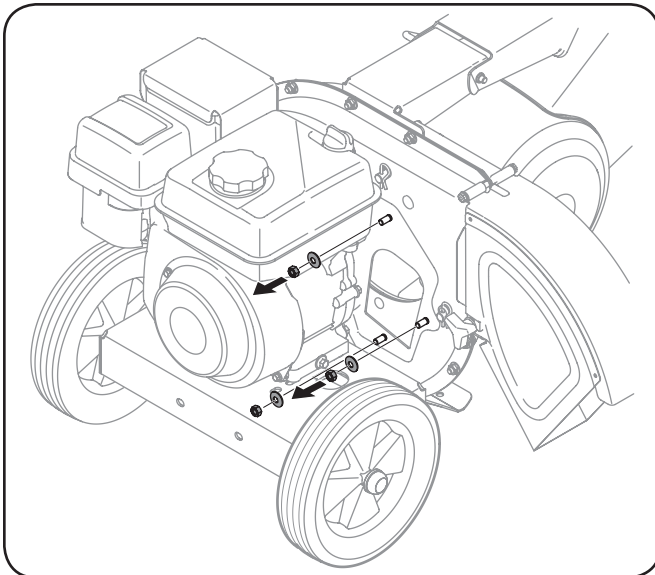

Figure 3-5
- Remove the three cupped washers and hex nuts from weld studs around the opening on the side of the impeller housing. See Figure 3-5.